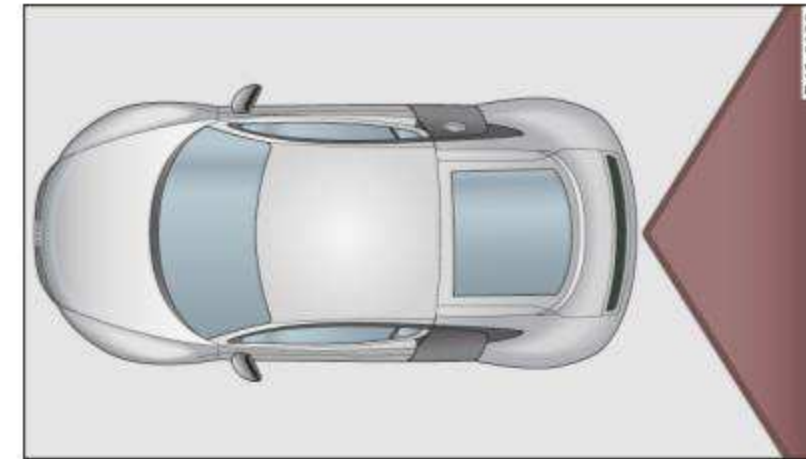
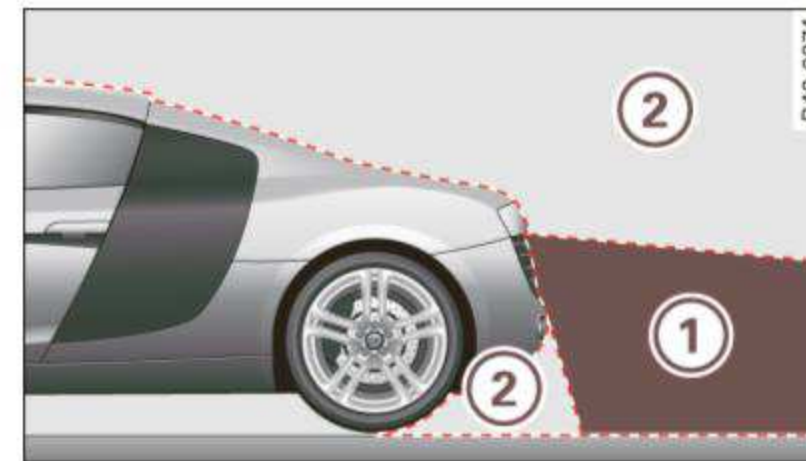

Fig. 72 View from top: Rearview camera coverage area
Fig. 73 Side view: Rearview camera coverage area
The rearview camera shows you the area behind your vehicle in the navigation system display. This area roughly corresponds to the area in ⇒ *page 89*, fig. 72 and ① ⇒ *page 89*, fig. 73. Orientation lines and colored surfaces are projected in the area shown, which can help you with parking and maneuvering. Objects that located in an area that is not captured by the camera ② ⇒ *page 89*, fig. 73 and that are closer to the bumper will not appear on the navigation system display.
- The rearview camera does not show the entire area behind the vehicle ⇒ *page 89*, fig. 73. Watch out especially for small children and animals. The rear view camera cannot always detect them, posing risk of an accident!